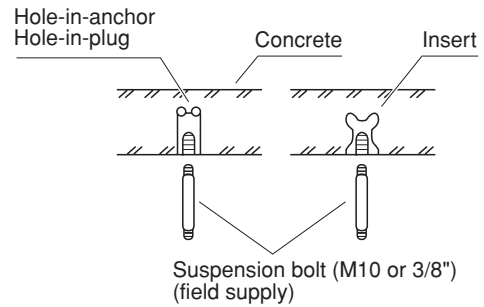

Fig. 3-58
- Insert suspension bolts as shown in Fig. 3-58
(2) Screw in the suspension bolts allowing them to protrude from the ceiling as shown in Fig. 3-58. (Cut the ceiling material, if necessary.)